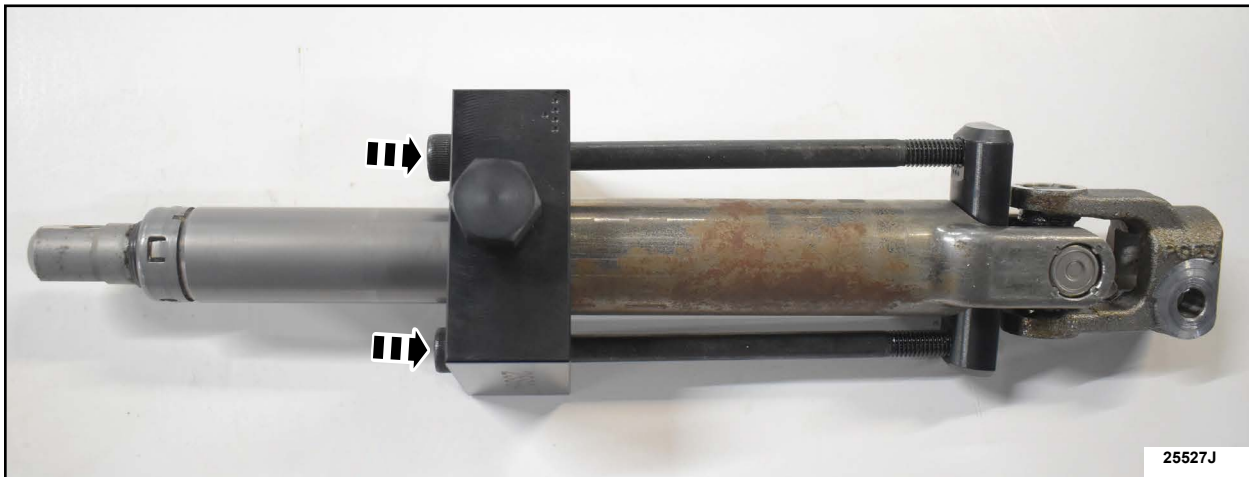

FIGURE 9
7. Evenly install the two Allen bolts to finger tight, then torque to the specification below. See Figure 9.